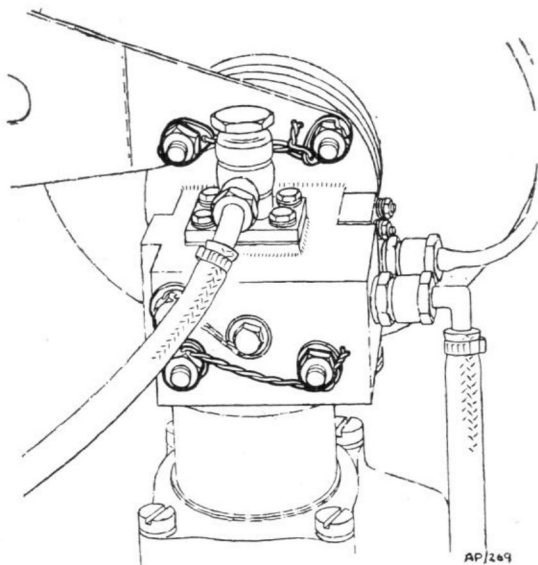
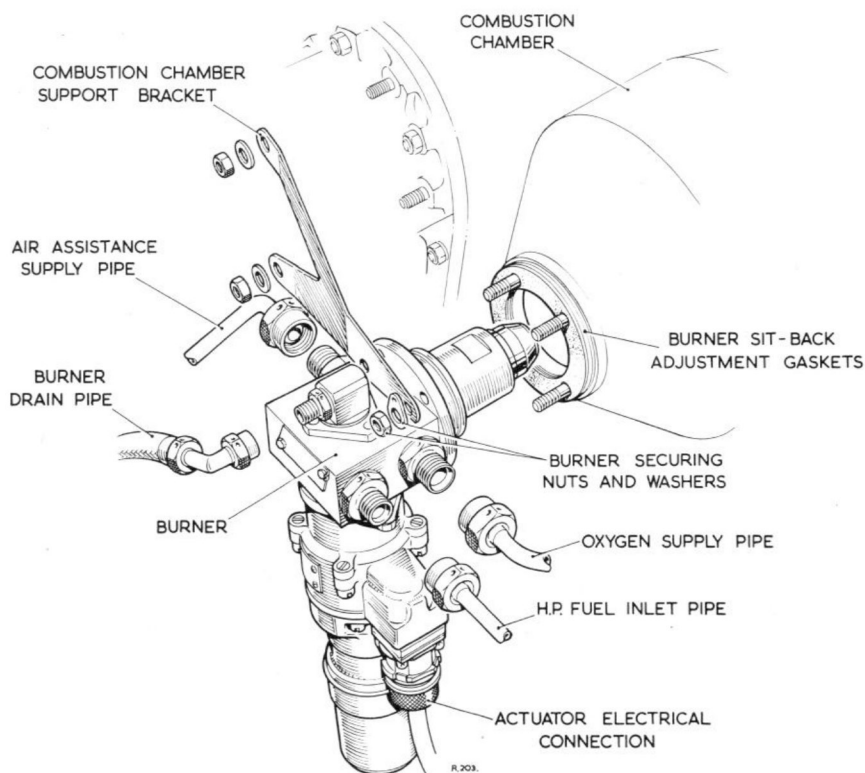

Fig. 3. Burner securing nuts (Pre Mod. M182)
Fig. 4. Removing the burner (Mod. M182)
bracket. Note the locking wire tabwasher (fig. 3 or fig. 4).
(6) Cut the locking wire and remove the two remaining nuts securing the burner to the combustion chamber (fig. 3 or fig. 4); then withdraw the burner assembly complete with the actuator, carefully noting the gaskets between the burner flange and the combustion chamber.
(7) Release the twelve socket head screws and spring washers securing the combustion chamber to the main air casing; then withdraw the combustion chamber complete with the igniter plug, carefully noting the gasket between the mounting flange of the combustion chamber and the main air casing.